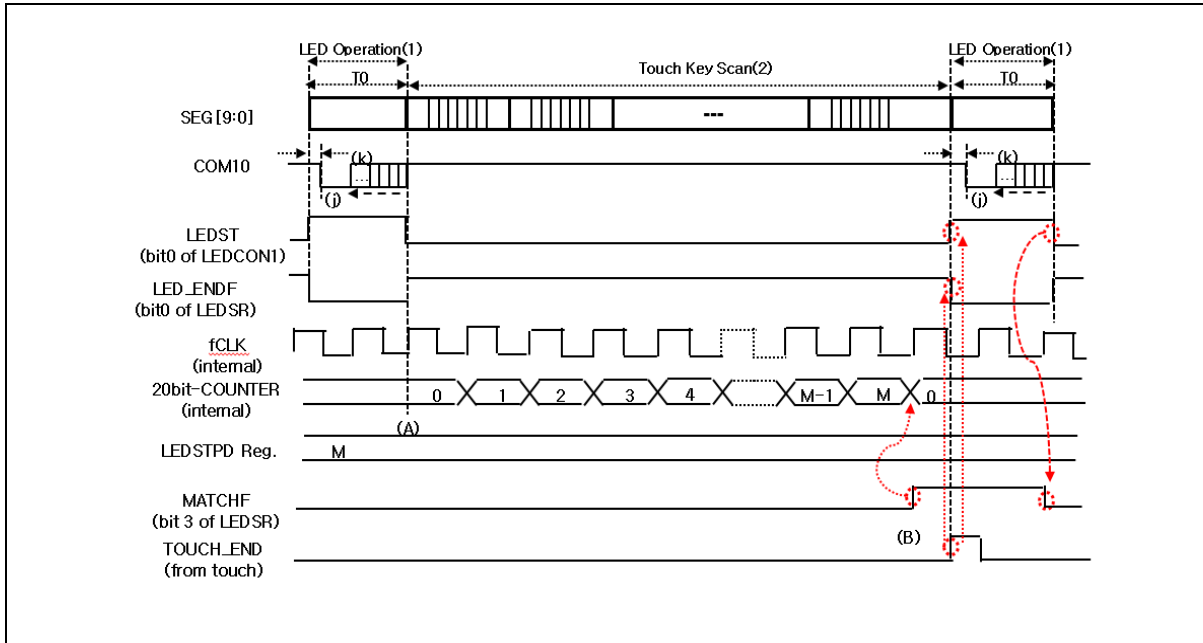

Figure 112. Smart Share Mode
Figure 112 shows an example of the Smart share mode with COMER reg = 000\_0000\_0000\_0000\_0100\_0000\_0000.
As shown in Figure 112, an interrupt occurs at point (A) where the LED operation is terminated when LED\_INTE is set. At the same time, 20-bit counter starts to increase by the internal enable bit although 20-bit sized LEDSTPD register is matched with the counter. Then MATCHF (bit3 of LEDSR) is set to "1".